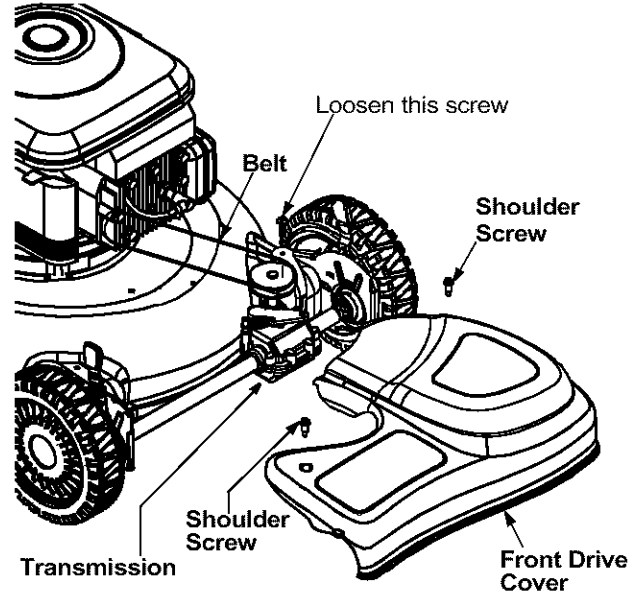

Figure 15
- Remove two shoulder screws securing the front drive cover to the mower deck. See Figure 15.
- Using a torx wrench, loosen the screw holding the belt tension spring to the transmission. See Figure 15. Do not remove the screw completely. As you loosen it, the tension on the belt will be released.